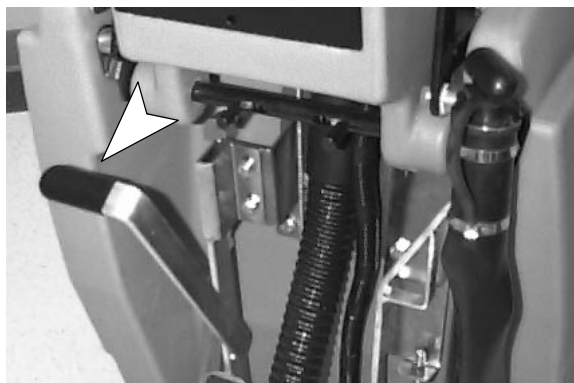

FIG. 15
- If more scrubbing pressure is needed for small heavily soiled areas, simply pull brush lift lever upward while operating (Figure 15).